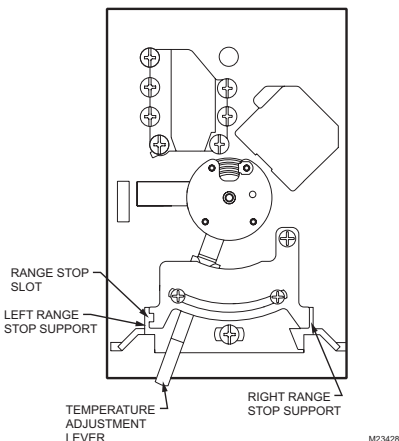

Fig. 2. Thermostat with front cover removed.
- Insert slot of range stop under tab on left range stop support. See Fig. 2.
- Position right side of range stop against right range stop support. See Fig. 2.